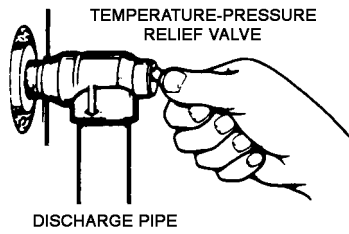

FIGURE 17
6. Make sure the replacement element has the correct voltage and wattage rating. Lubricate the new gasket with a few drops of dishwashing soap, position the new gasket on the element and insert it into the water heater tank (Figure 17). Tighten the element by turning it clockwise until secure.